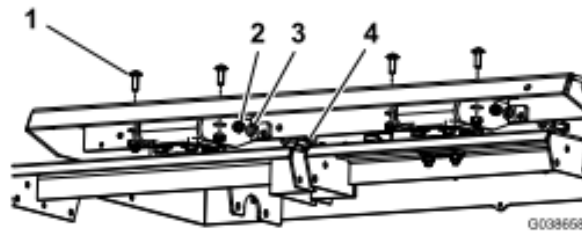

Figure 2
- Remove the steering heads from the machine as shown in Figure 2.